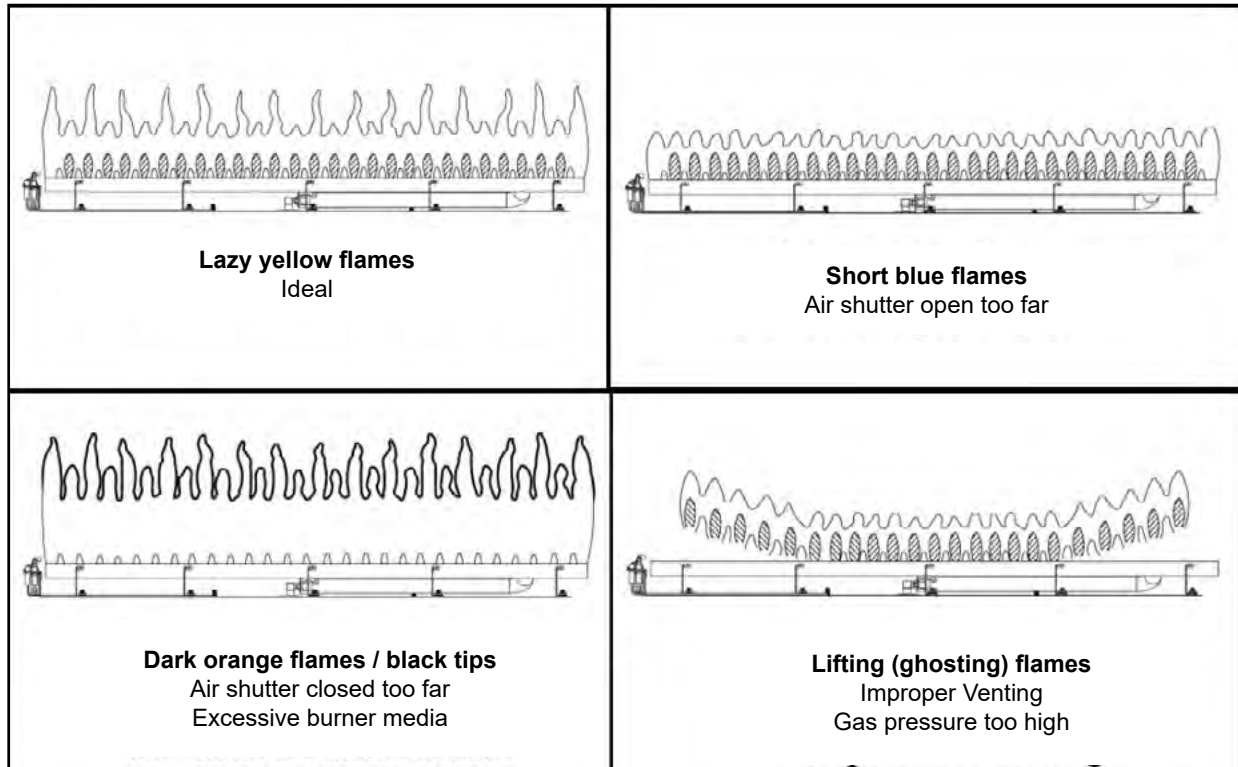
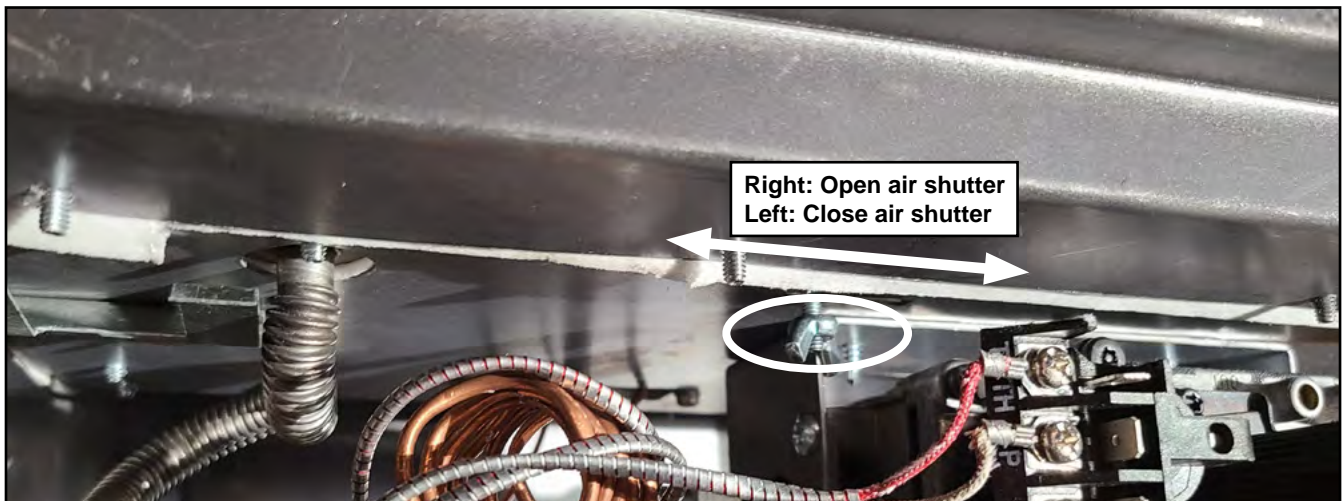

Figure 20.5.01:
Figure 20.5.02:
- Inspect and ensure the lighting of the main burner occurs within 4 seconds of the main gas valve opening. Flames should match those shown in **Figure 20.5.01**
The 22-DVIM22LN-1 includes an air shutter located underneath the firebox of the fireplace which may be used to adjust the primary air to achieve the ideal flame as shown in **Figure 20.5.01**. To adjust, loosen the wing nut securing the air shutter in place as shown in **Figure 20.5.02**. To open the air shutter and increase air flow to the burner, pull the adjuster to the front of the fireplace. To close the air shutter and decrease air flow to the burner, push the adjuster to the back of the fireplace.